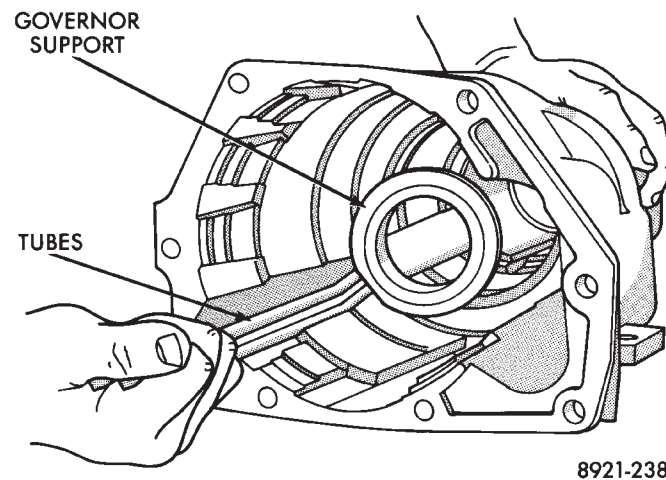

Fig. 63 Installing Governor Support And Pressure Tubes
(15) Install governor support and pressure tubes in case (Fig. 63).